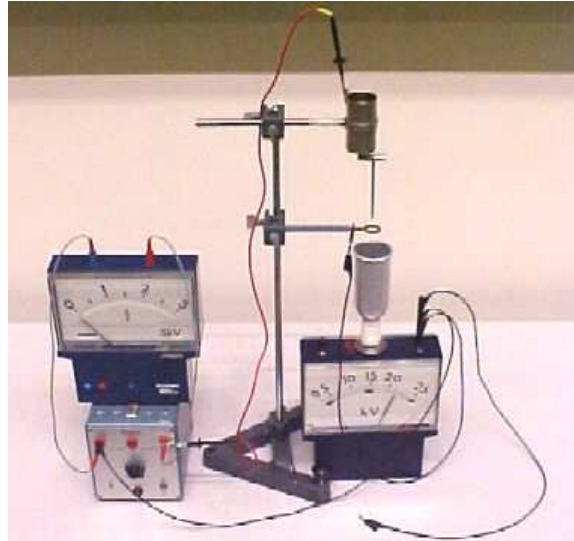

Figure 2
- Electrostatic Voltmeter (see Remarks and Figure2).
- The electrostatic Voltmeter can be replaced by an electrostatic Voltmeter (see Figure2). Then the students can see directly that the voltage of the metal beaker can reach a voltage much higher than the voltage of the container from where the drops are falling.